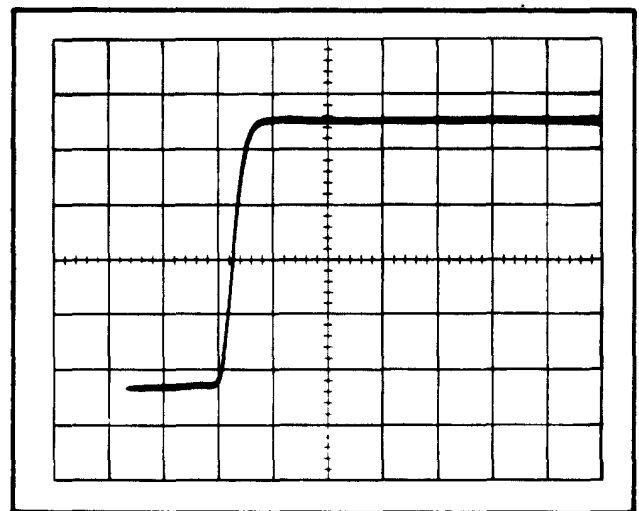

Fig. 5-7. Typical CRT display showing correct high-frequency compensation.
d. CHECK—CRT display for  $\pm 0.15$  division or less overshoot, rounding, ringing or tilt (see Fig. 5-7).
g. CHECK—CRT display for  $\pm 0.15$  division or less overshoot, rounding, ringing or tilt (see Fig. 5-7).